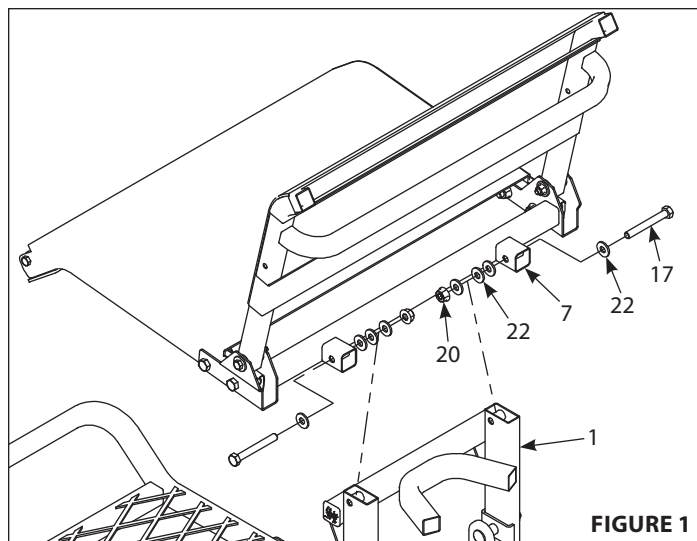

FIGURE 1
1. Attach seat assembly (7) to seat post (1) using two provided M8 x 65mm bolts (17), eight thicker yellow washers (22) and two M8 locknuts (20). **SEE FIGURE 1.**